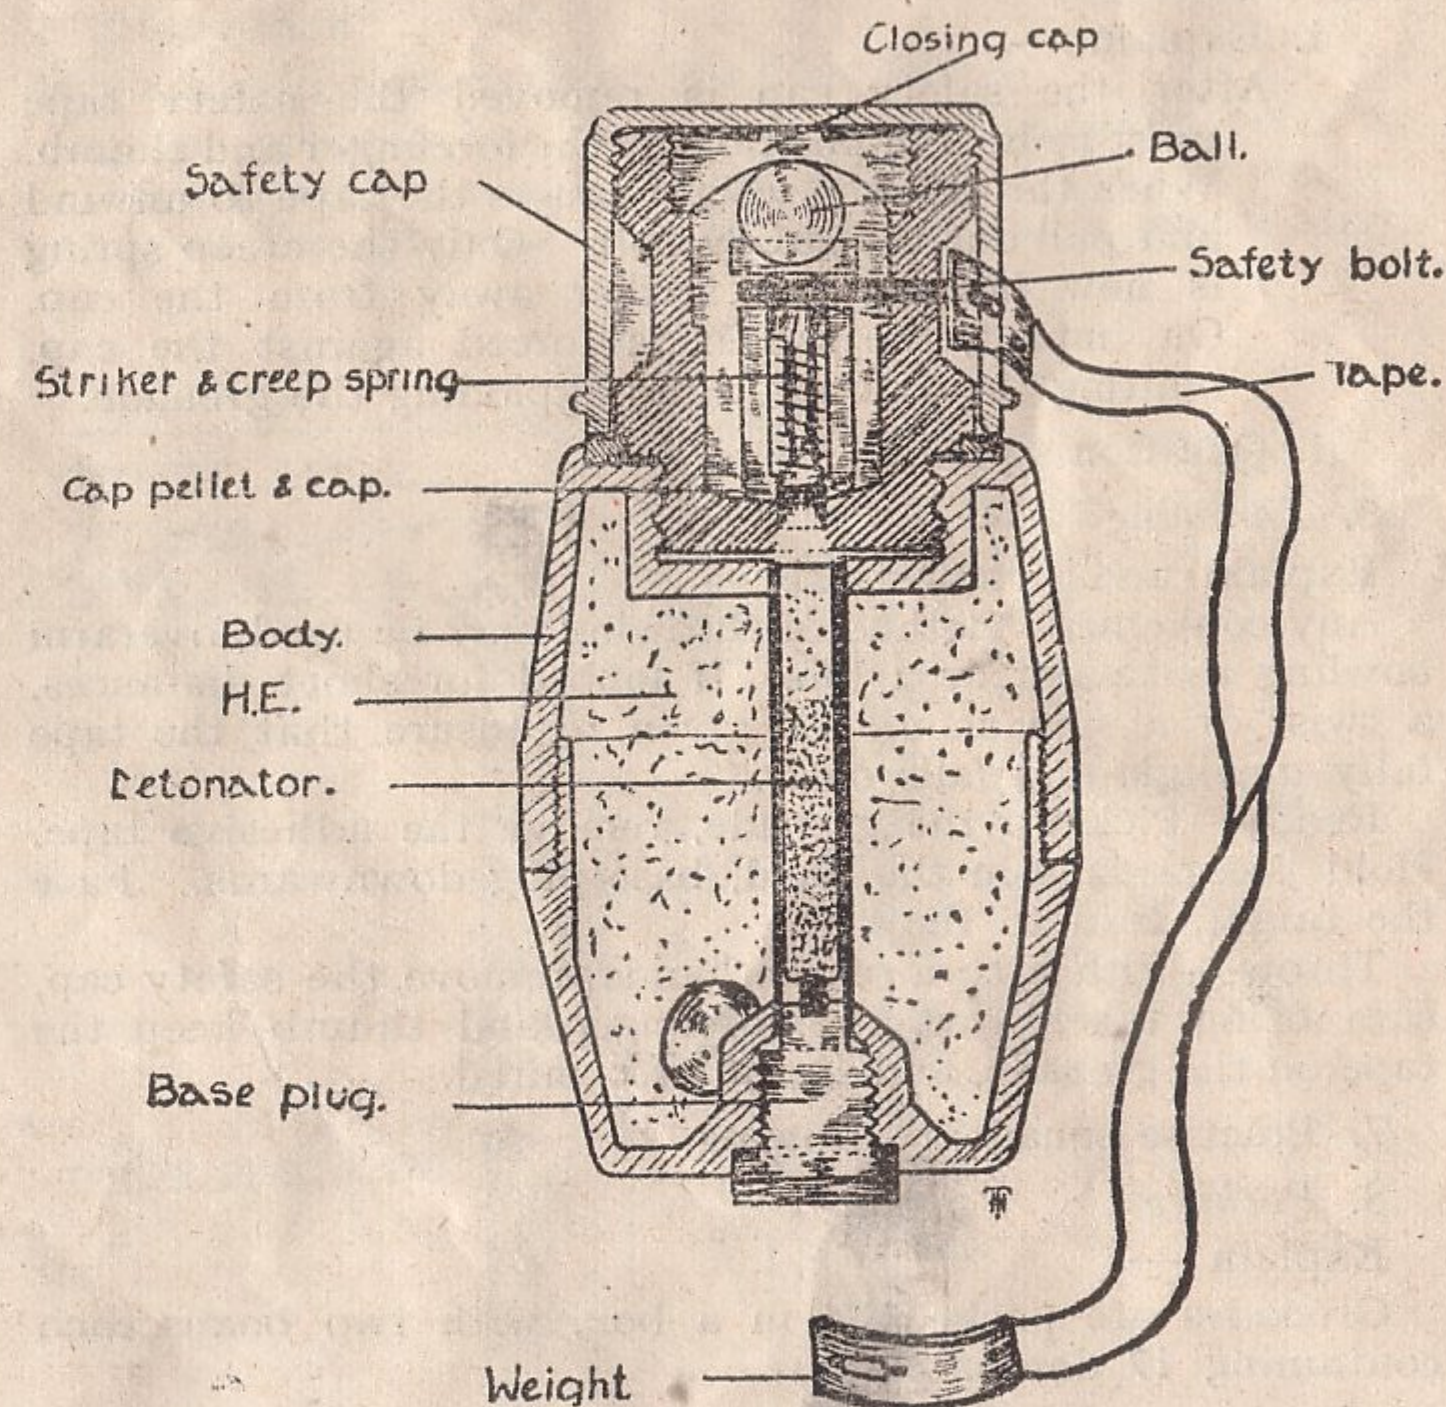

FIG. 15
i. Explain and demonstrate where necessary (see Fig. 15):